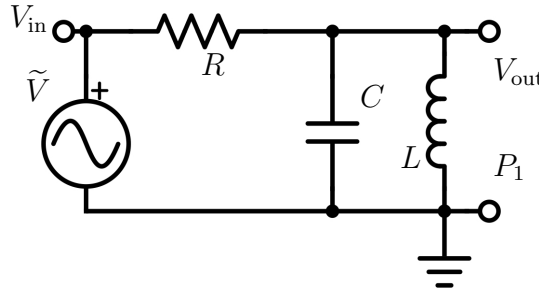
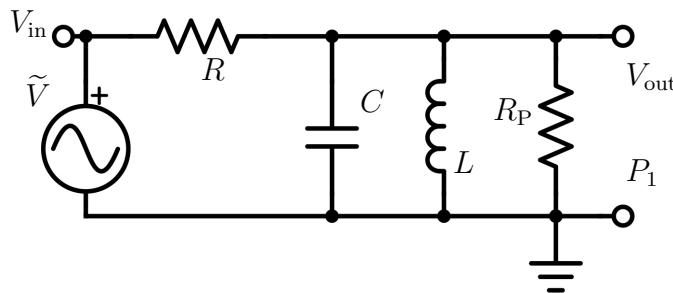

Figure 5: Circuit diagram for an RLC band-pass filter, with Q -spoiling resistor R_2 .
Figure 7: Circuit diagram for an RLC band-pass filter, with Q -spoiling parasitic parallel resistance R_P .
- 2) Using the formula derived in lecture, calculate the resonant angular frequency ω_0 and resonant frequency f_0 of the resonant circuit in Fig. 5. *A very common mistake is to mixup frequency and angular frequency in the lab.*
- 3) Using the formula derived in lecture, calculate the Q -factor for the resonant circuit in Fig. 5.
Build the circuit in Fig. 5 using $R = 1 \text{ k}\Omega$, $C = 4.5$, and $L = 150 \text{ }\mu\text{H}$. Set the frequency of the function generator to $f_0 = \omega_0/2\pi$ and the peak-to-peak voltage 10 V.
The Q -factor that you measured in the previous section is significantly lower than the theoretical Q -factor for the circuit in Fig. 5. In fact, the inductor is non-ideal in a number of ways. In this case, there is a parasitic parallel resistance that makes the circuit effectively that of Fig. 7. The resistance R_P is already present (unfortunately!) in your circuit.